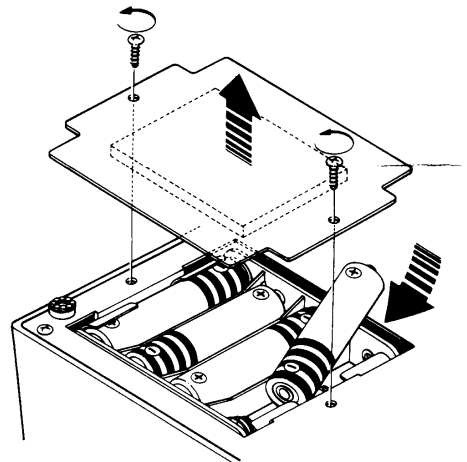

Fig. 2 Battery installation
The MC-85 employs a standard 8-pin plug for connection. When connecting the microphone to a mic jack other than 8-pin, use an adaptor plug. Fig. 2 shows the internal wiring connection. Table 1 shows the relationship between the microphone and Kenwood equipment.
- (1) Obtain four (4) common "AA" cells.
- (2) Remove the lid as shown in Fig. 2. Install the batteries observing correct polarity. Replace the lid.
- (3) After the batteries are installed, place the POWER switch ON and verify that the LED lights.